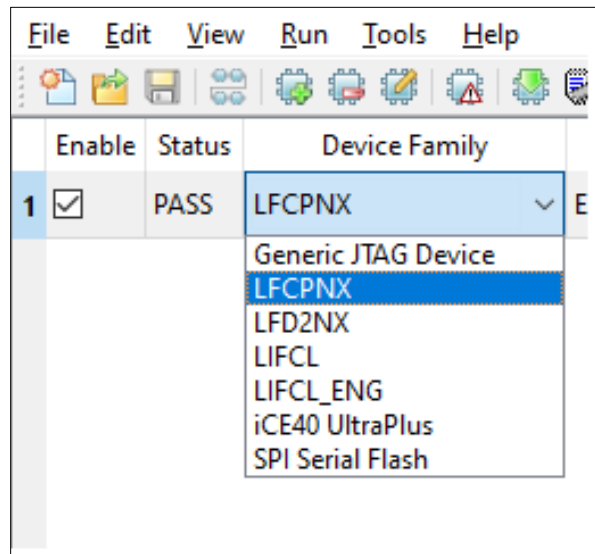

Figure 16.10. Radiant Programmer – Device Selection
3. In the Radiant Programmer main interface, select LFCPNX for **Device Family** and LFCPNX-100 for **Device** (Figure 16.10).